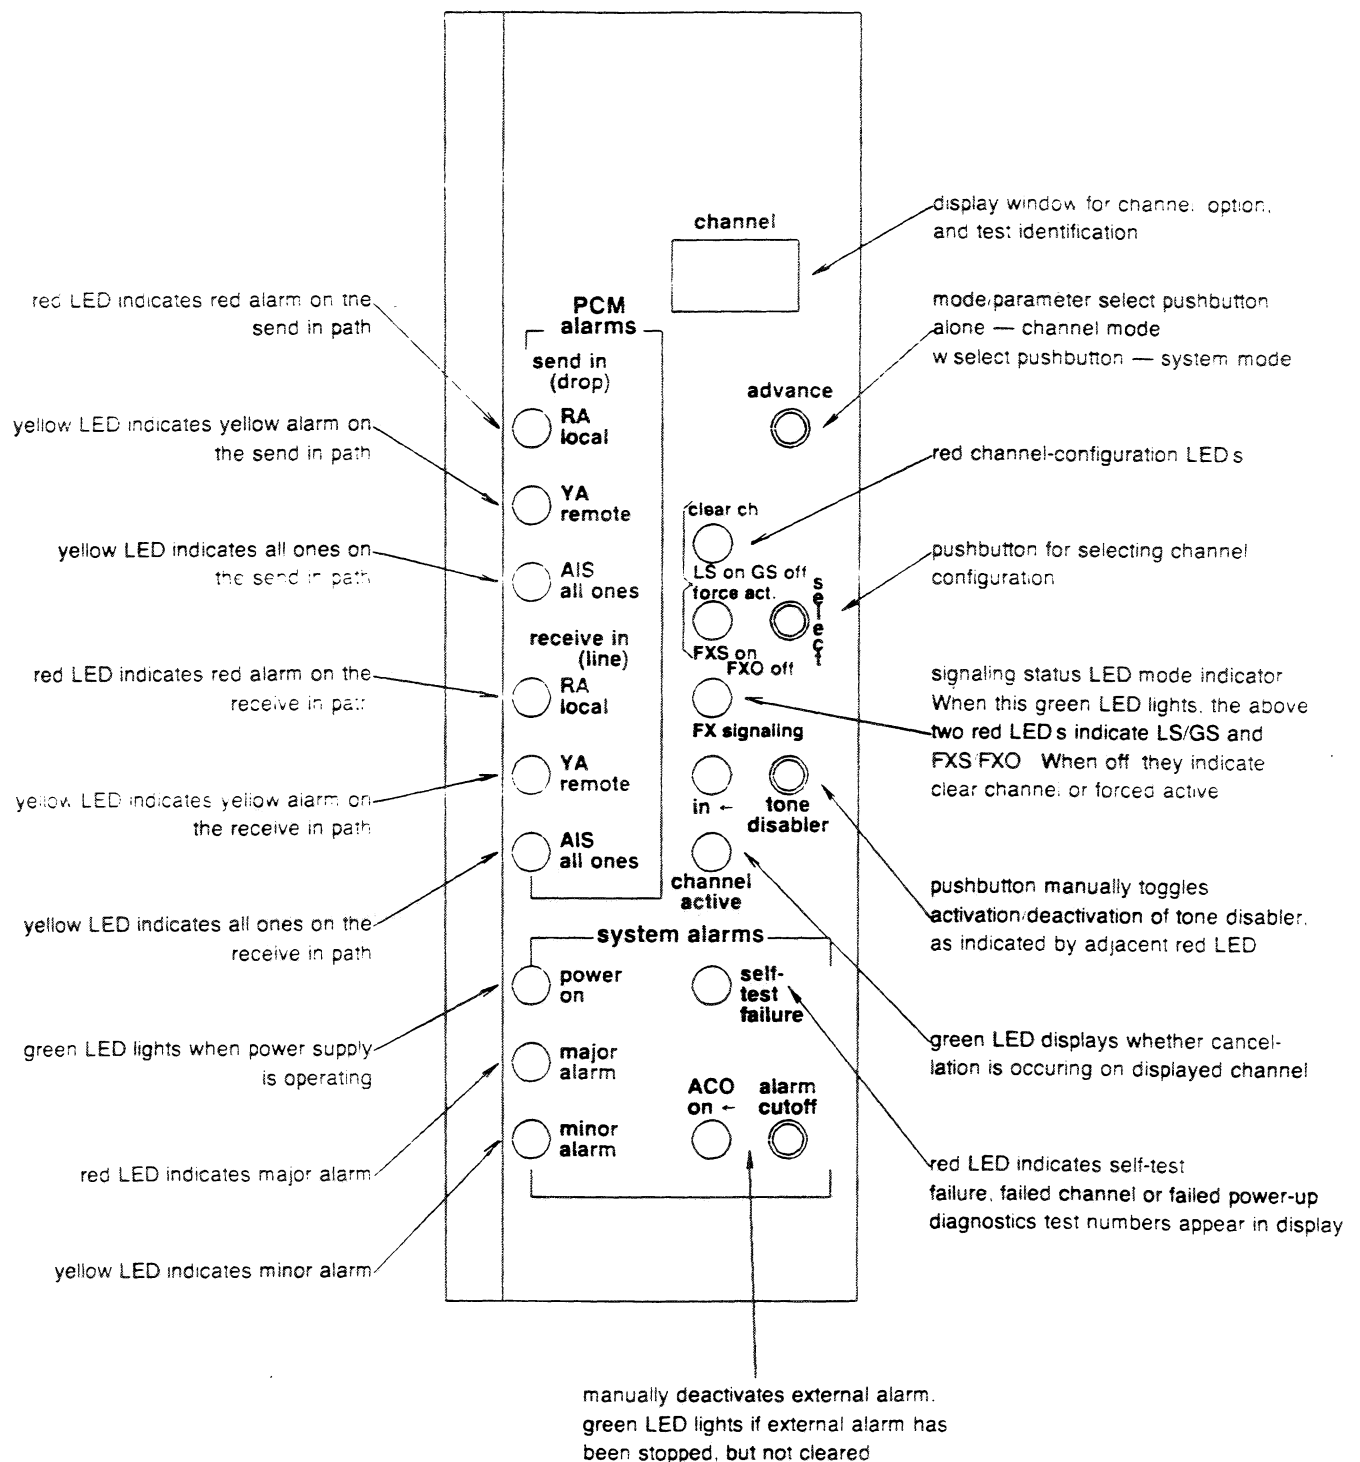

Figure 6. 2531/2531A Front Panel
4.01 Pushbuttons and LED's on the 2531/2531A's front panel provide the means for programming and monitoring both system and individual channel operating parameters. Figure 6 provides a quick-reference information source for the front panel.